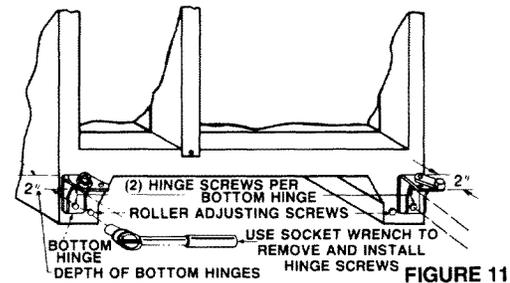

FIGURE 11
12. Remove the lower hinge bracket screws. (2) screws per lower hinge. See Figure 11.